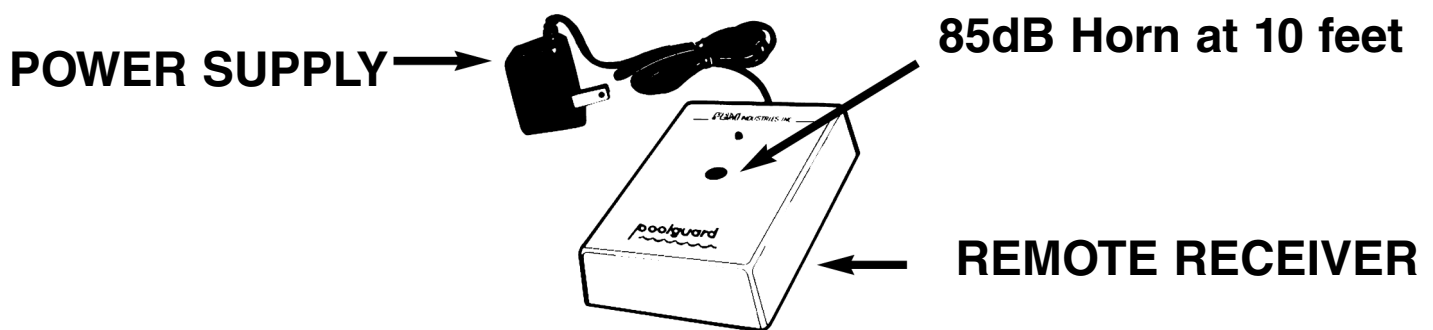

FIGURE 6
- A coded pulse receiver (Remote Receiver). Figure 6
- A standard wall outlet power supply. Figure 6